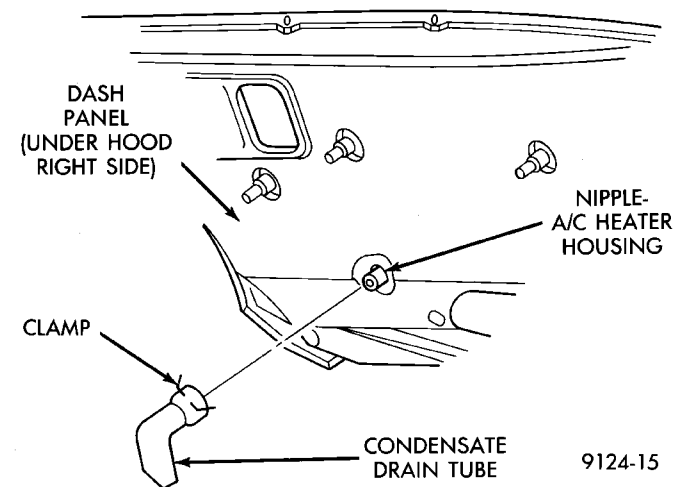

Fig. 28 Condensate Water Drain Tube – Typical
- (1) Raise vehicle.
- (2) Locate rubber drain tube on right side of dash panel (Fig. 28).
- (3) Squeeze clamp and remove drain tube.